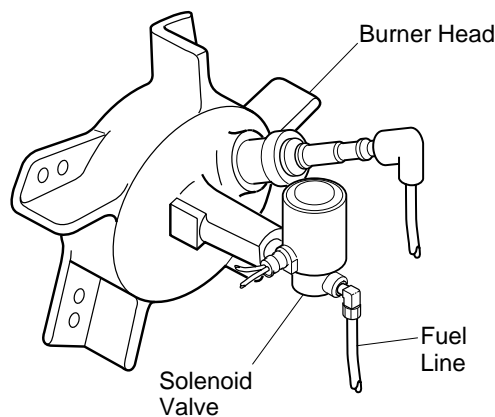
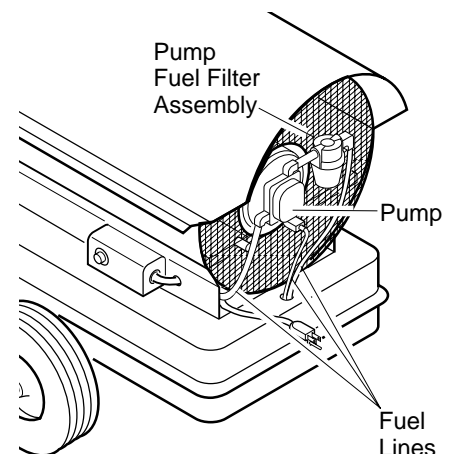

Figure 13 - Fuel Line at Solenoid Valve
Figure 14 - Fuel Lines at Pump and Pump Fuel Filter Assembly
2. Use 7/16" wrench and tighten fuel lines at solenoid valve (see Figure 13), pump, and pump fuel filter assembly (see Figure 14).